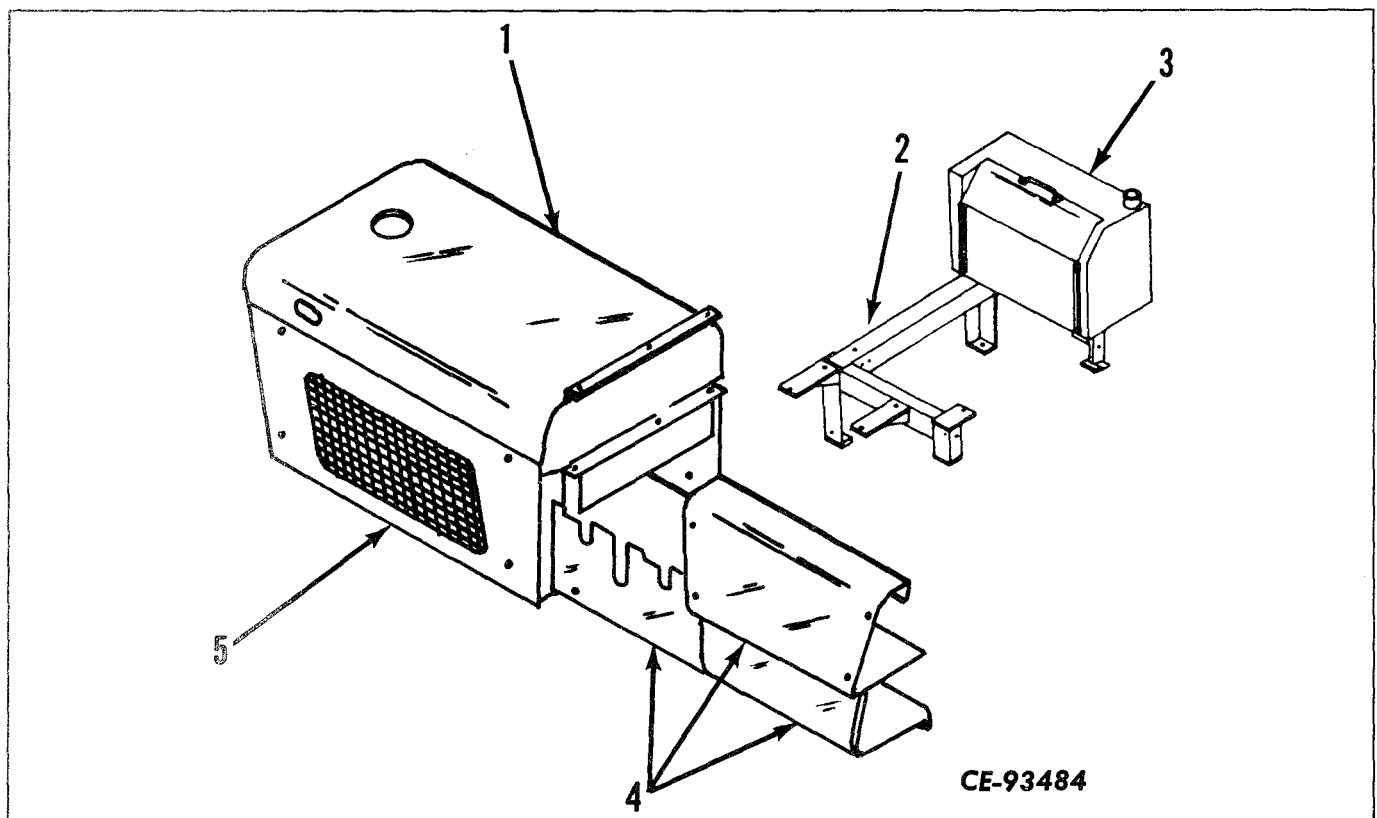

Figure 1-3
weldments. The support (2, Fig. 1-3), as-
frame group forms a backbone for the sheet cowling. The hood (1, Fig. 1-3), connected to the support (2) and grille provides the suspension member for the hood side panels (5).